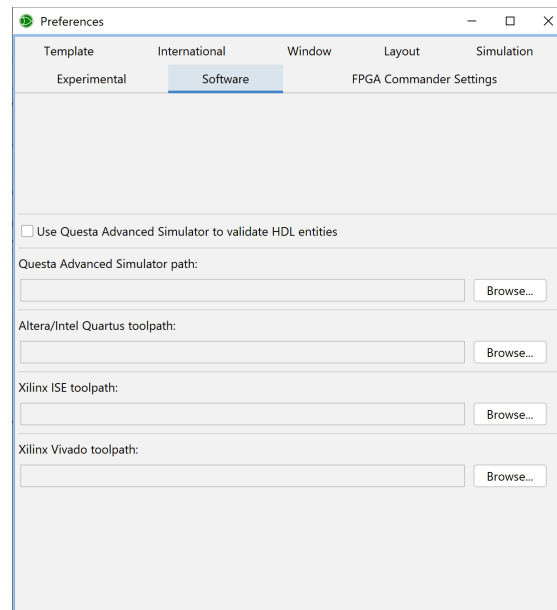

Figure 7: The Preferences: Software tab
7. Navigate to the **Software** tab (Figure 7). Click on **Browse** next to the **Altera/Intel Quartus toolpath**. An open folder dialogue should open.